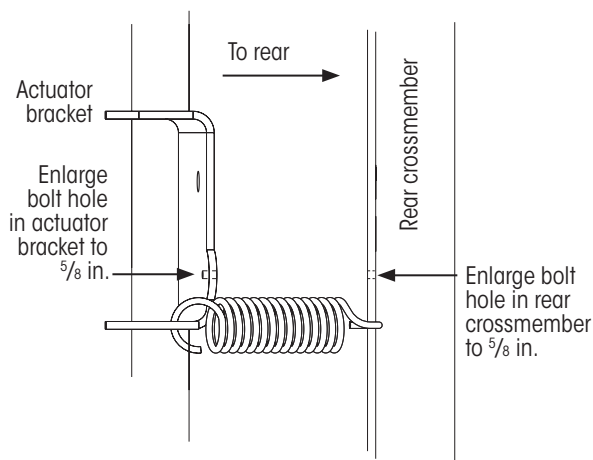
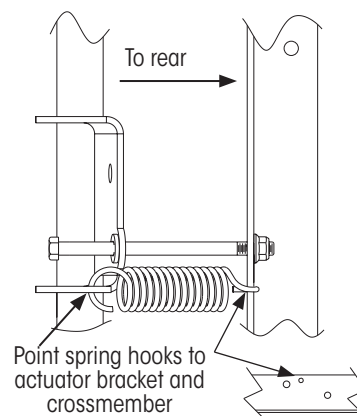
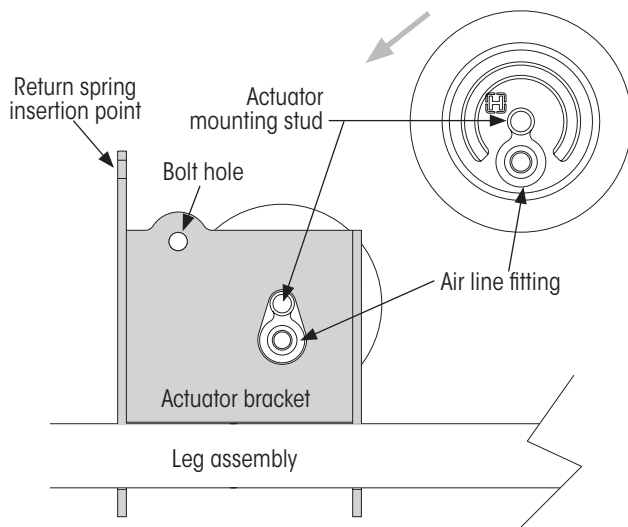

Figure 1: Increase size of bolt holes (top view)
Figure 3: Installing return spring (top view)
Figure 4: Installing actuator (rear view)
1. **Enlarge** bolt holes in the actuator bracket to $\frac{5}{8}$ inch and in rear crossmember to $\frac{5}{8}$ inch (Figure 1 and Figure 4).
1. **Hook** one end of return spring into actuator bracket (Figure 3 and Figure 4).
3. **Stretch** return spring over rear crossmember and hook into hole provided (Figure 3).
1. **Place** air spring stud into mounting hole in the actuator bracket (Figure 4).